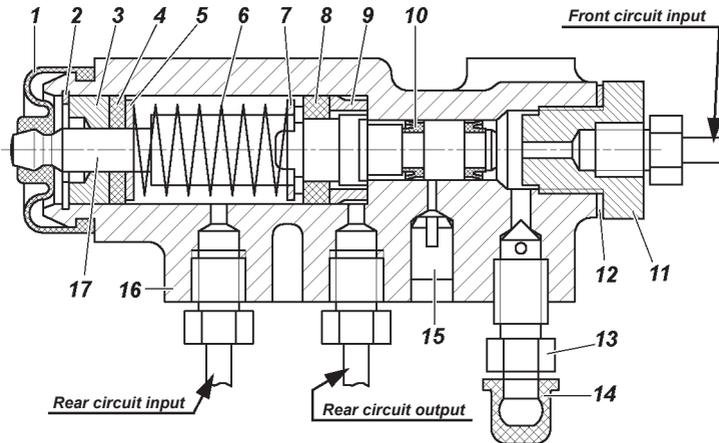
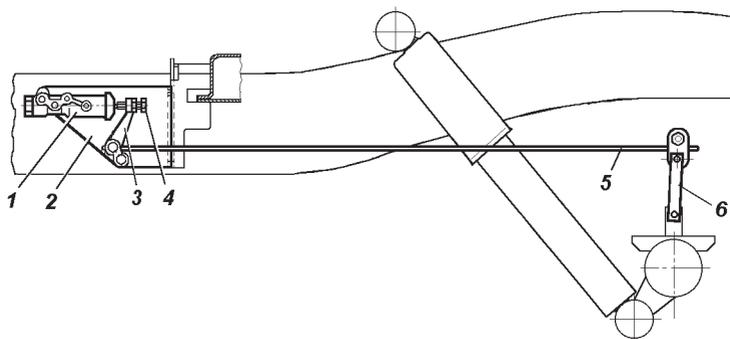

Fig. 9.36. Proportioning valve:
Fig. 9.37. Proportioning valve drive:
Proportioning valve (Fig.9.36). During maintenance, check the function of the proportioning valve. Clean it from the dirt and check the safety of its fastening. Visually inspect that the proportioning valve and its parts have no damage, there is no leakage of the brake fluid and no backlashes in the pillar coupling with the resilient lever and the real axle bracket.
During the operation and replacement of back leaf-springs, adjust the force of flexible arm 5 (Fig. 9.37) to the valve piston. For adjustment do the following:
3. Tighten bolt 4 (see Fig. 9.37) until it touches the regulator piston end 17 (see Fig. 9.36) by screwing the adjusting bolt for $1 \dots 1\frac{1}{3}$ turn (6-8 flats of the bolt head).
While going on a straight level road with a dry surface, brake the vehicle until the wheels lock. If the valve is in order and drive adjustment was done correctly, the front wheels should be blocked slightly earlier than the rear ones. If the rear wheels are blocked earlier, unscrew bolt 4 (see Fig. 9.37) by 1-2 flats of the bolt head and check the brakes in motion again.